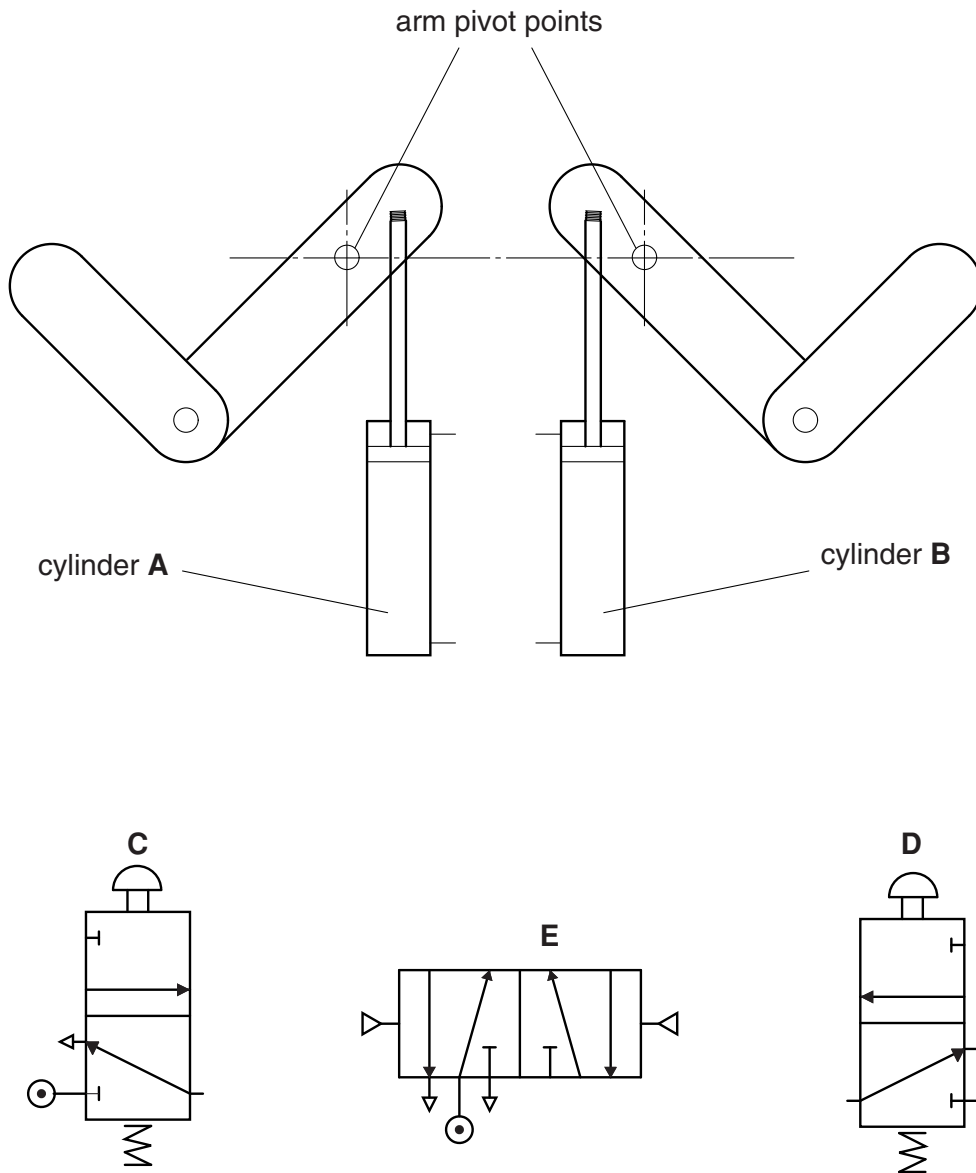
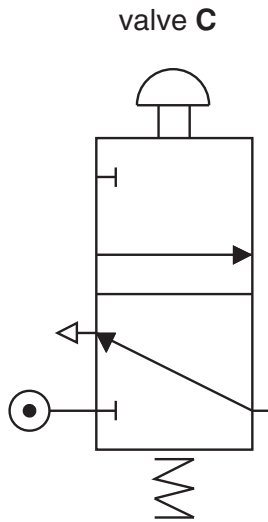
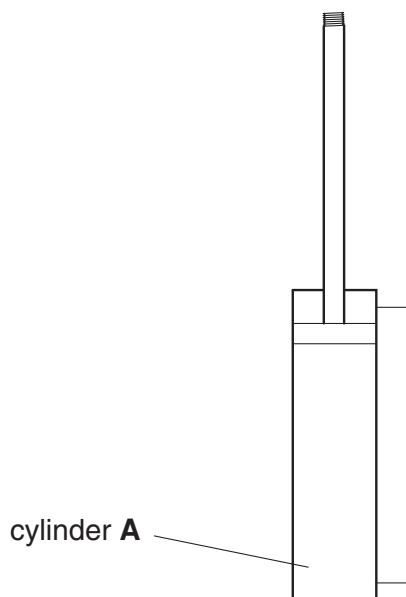
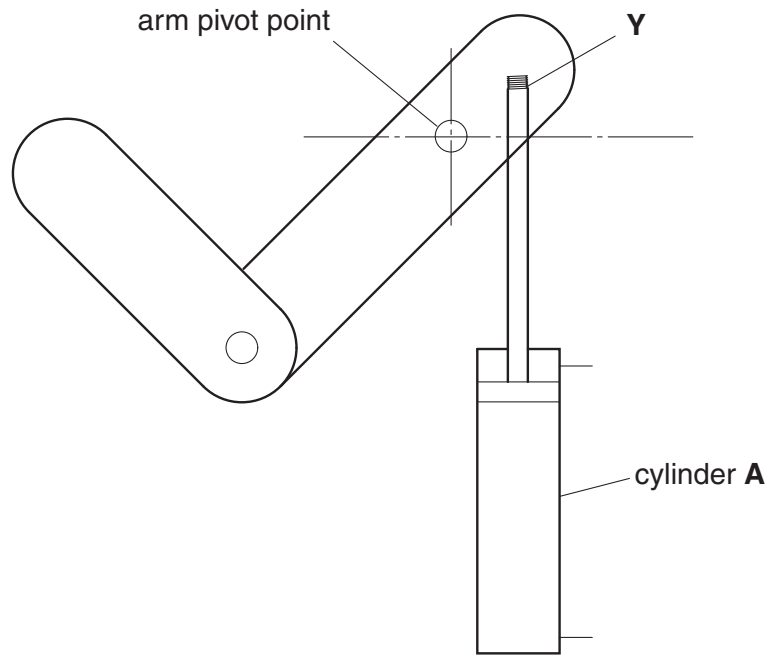

Fig. 2
Fig. 3
Fig. 4
Fig. 5
2 Fig. 2 shows the components for the circuit to raise the arms of the puppet and then lower them.
(a) Complete the circuit in Fig. 2 which will make both cylinders A and B raise the arms (instroke) when valve C is pressed and released, and lower the arms (outstroke) when valve D is pressed and released. [6]
(b) Explain how the circuit in Fig. 2 operates, making reference to valve E.
- 3 A computer could be used to switch valves **C** and **D** ON and OFF as required and also to operate cylinders **A** and **B** in Fig. 2.
(a) Fig. 3 shows valve C from the existing circuit in Fig. 2.
In the space next to Fig. 3 draw a similar valve which can be controlled directly from the output of the computer.
(b) Fig. 4 shows cylinder A from the existing circuit in Fig. 2.
In the space next to Fig. 4 draw another type of cylinder which can send a signal directly to the input of the computer to indicate reaching each end of the piston stroke. Add notes to explain the difference.
- 4 Fig. 5 shows the mechanism to control one of the arms from Fig. 2.